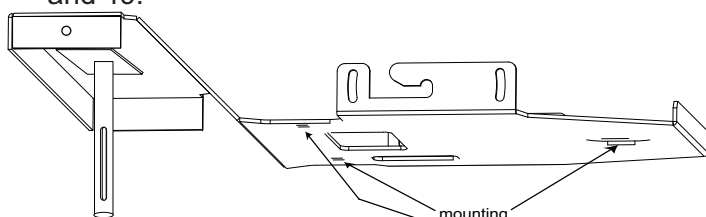

Figure 18
6. Invert the projector and place it on a soft, flat surface. Align the three 6mm mounting holes on the projector with the mounting holes on Plate #4 and the LN7101F. Secure the bracket to the projector using the three 6mm screws. Refer to figures 18 and 19.